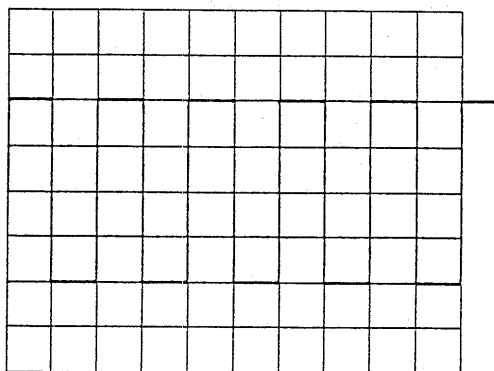

Figure 4-3
- 5) Set the AC-GND-DC switch in the AC state. A waveform as shown in Figure 4-3 will be displayed on the CRT screen.
When the calibration voltage signal is applied to the input terminals of both X and Y axis with the P060-S 10:1 Probes (supplied) and the corresponding VOLTS/DIV switches are properly adjusted, a Lissajous figure as shown in Figure 4-3 will be displayed.